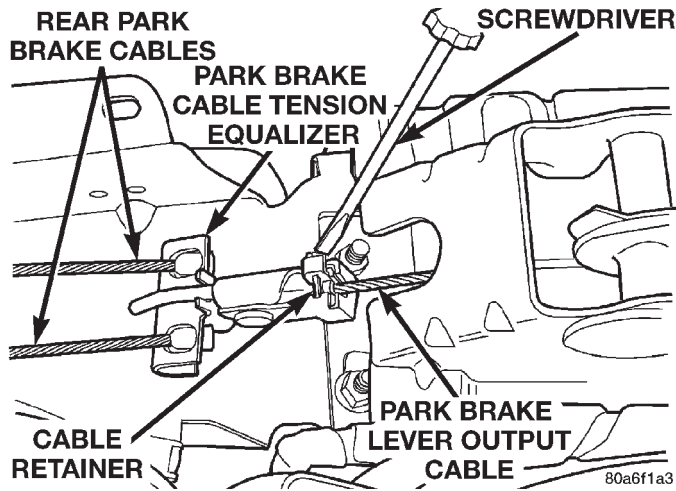

Fig. 201 Output Cable To Equalizer Retaining Clip
(9) Using a screwdriver (Fig. 201) unlatch the park brake output cable retainer. Then remove cable retainer from park brake cable tension equalizer.